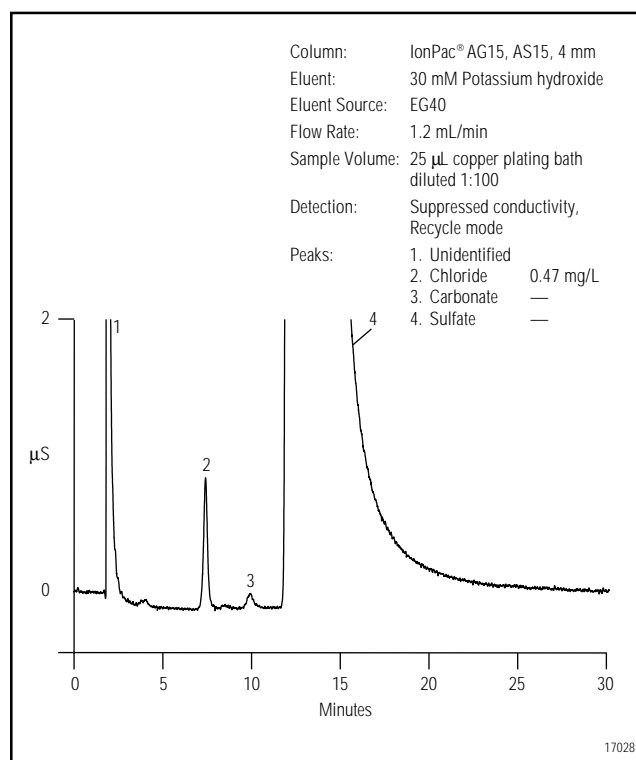

Figure 1. Determination of chloride in acid copper plating bath.
Ion chromatography (IC) provides a convenient method for the determination of chloride in acid copper plating baths. These baths are used for deposition of copper on semiconductor wafers. Monitoring chloride concentration is of interest because it plays an important role in the quality of copper deposition. Compared to standard wet chemical techniques, IC offers improved speed and accuracy for this analysis. An acid copper bath typically contains copper sulfate, sulfuric acid, hydrochloric acid, and a variety of proprietary additives. Figure 1 shows an analysis of a 25- $\mu$ L sample of copper plating bath diluted 1:100. Chloride is detected by suppressed conductivity and the EG40 eluent generator is used to prepare the 30 mM potassium hydroxide eluent on-line. Chloride is separated from the excess of sulfate present in the copper plating bath. This Application Update describes the setup and procedure to determine chloride in a copper plating bath using the IonPac® AS15 column.